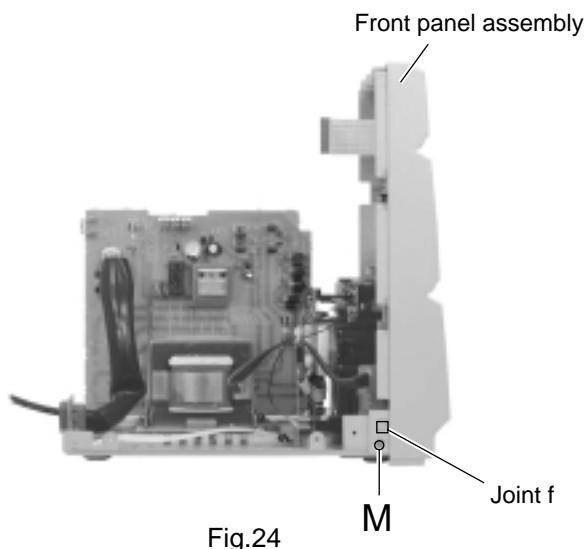

Fig.24
■ Removing the front panel assembly (See Fig.24 and 25)